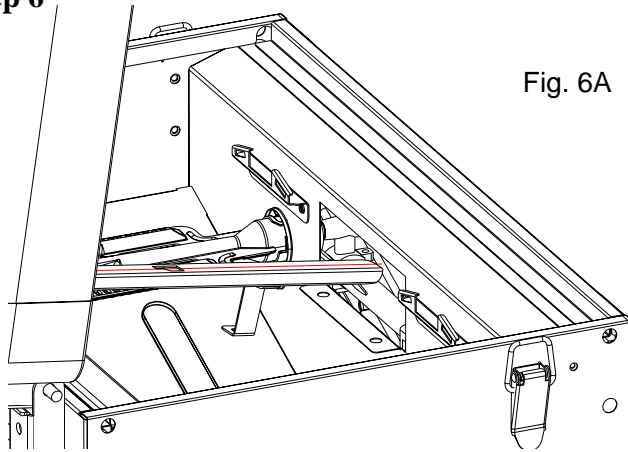
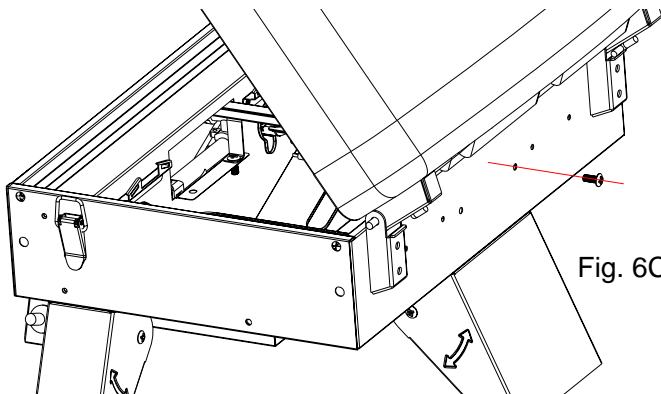
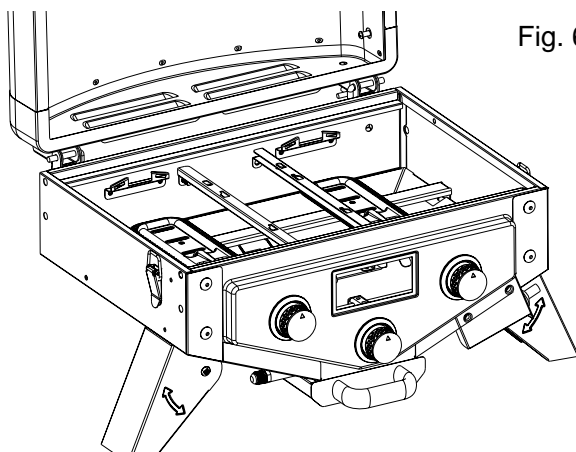

Fig. 6A
Fig. 6C
Fig. 6D
Push the Wood Chip Box Left Rail into the rectangular hole in the Front Panel of the Firebox as shown in Fig. 6A.
Attach the Wood Chip Box Left Rail to the Rear Panel of the Firebox using (1) M5x10 bolt as shown in Fig. 6C.
Refer to Fig. 6A to Fig. 6C, attach the Wood Chip Box Right Rail to the Firebox as shown in Fig. 6D.